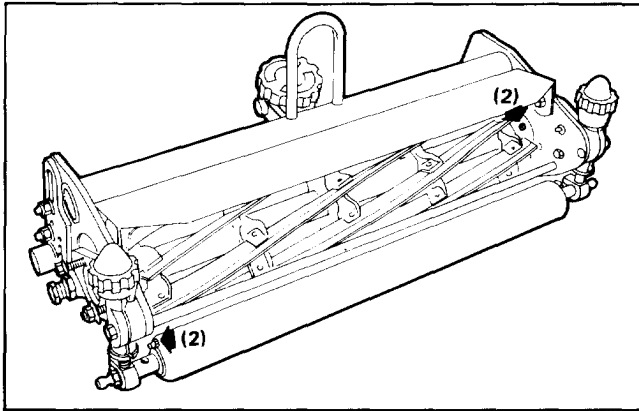

Figure 10
There are eight (8) grease fittings on each cutting unit (Fig. 10 & 11), which should be greased at least once every two weeks. Lubricate using a No. 2 multi-purpose lithium base grease. A hand operated grease gun is recommended for best results.